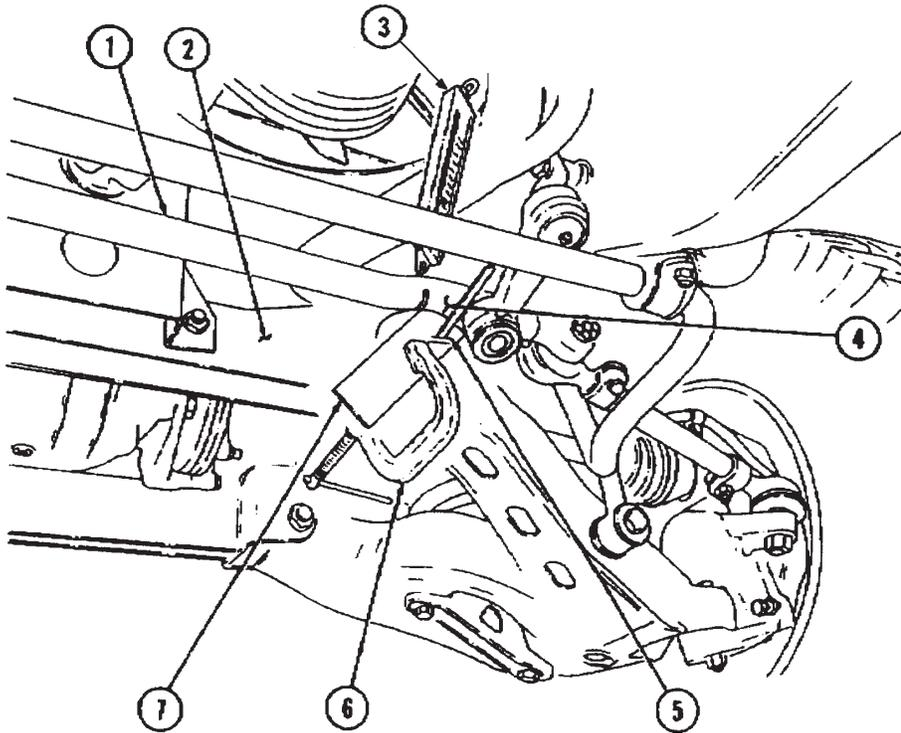

Figure 7-4.
9. Position spring scale (3) on center link (1) and pull in an upward direction to obtain 25 lb reading on spring scale (3) as shown in Figure 7-4.
11. Remove clamp (6) and steel plate or scrap metal (7) from front crossmember (2) as shown in Figure 7-4.